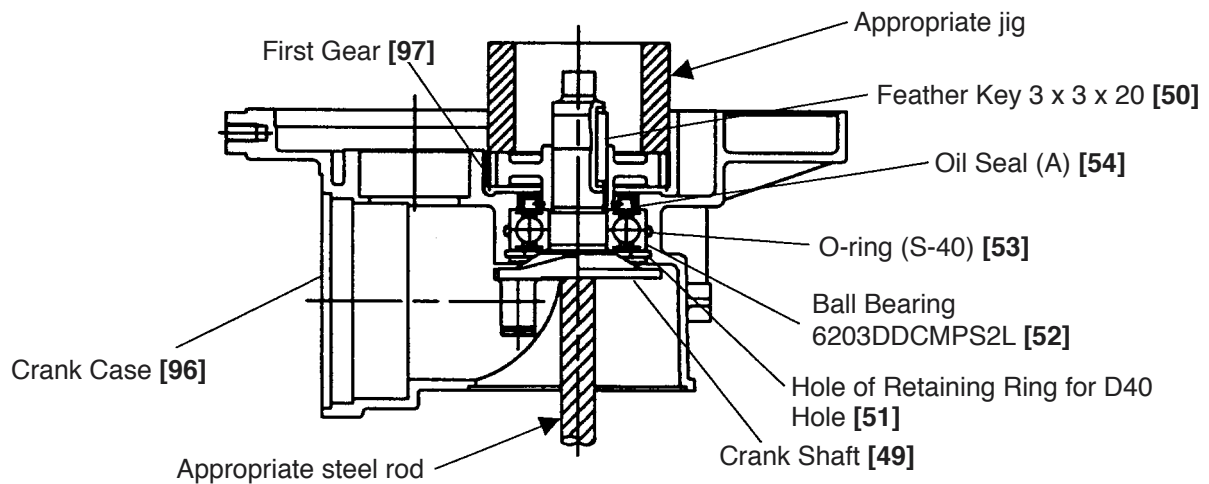

Fig. 19
(1) Reassembly of the first gear and the crank shaft
Press-fit Oil Seal (A) [54] into the Crank Case [96] and mount O-ring (S-40) [53]. Press-fit the Ball Bearing 6203DDCMPS2L [52]. Mount the Retaining Ring for D40 Hole [51] using a retaining ring puller. Press-fit the Crank Shaft [49] into the Ball Bearing 6203DDCMPS2L [52]. Put the Feather Key 3 x 3 x 20 [50] in the groove of the Crank Shaft [49] and press-fit the First Gear [97] with an appropriate jig while holding the flat portion of the Crank Shaft [49] with an appropriate steel bar. Before press-fitting, make sure that the Feather Key 3 x 3 x 20 [50] fits in the key groove of the First Gear [97]. Press-fit the Crank Shaft [49] into the Second Pinion [98] in the same manner as the reassembly of the First Gear [97] (Fig. 19).